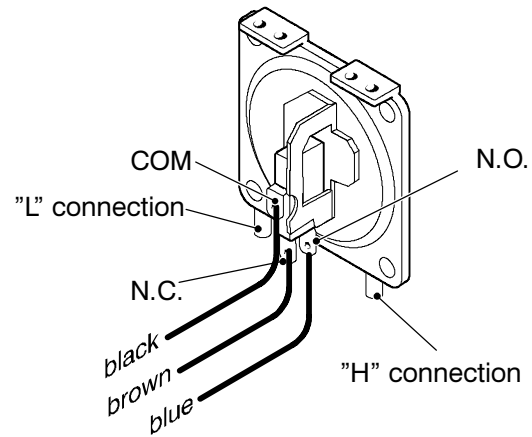
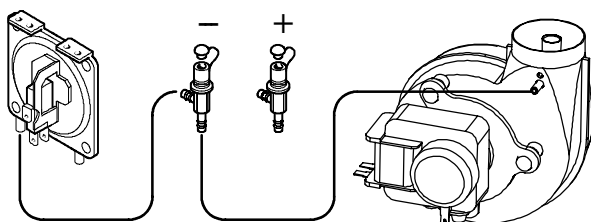

Fig. 68a
Fig. 72
- 2 Disconnect the wires and check the electrical resistance between the connections of the Air pressure switch. Refer to the Fig. 68a or b in accordance with the type of air pressure switch used.
Warning: to correctly connect the venturi device to the Air pressure switch, refer to Fig. 72.
Warning: to correctly connect the Air pressure switch, refer to Fig. 72 and Fig. 68a or Fig. 68b for the correct wiring.